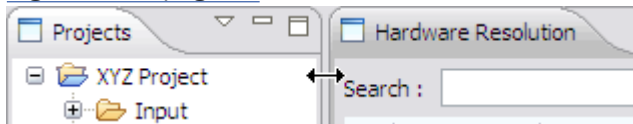

Figure 26. Double-headed arrow indicates you can resize width of s
1. Placing your cursor on the boundary between two tabbed panes until a double-headed arrow appear. Figure 26 on page 23 shows this.